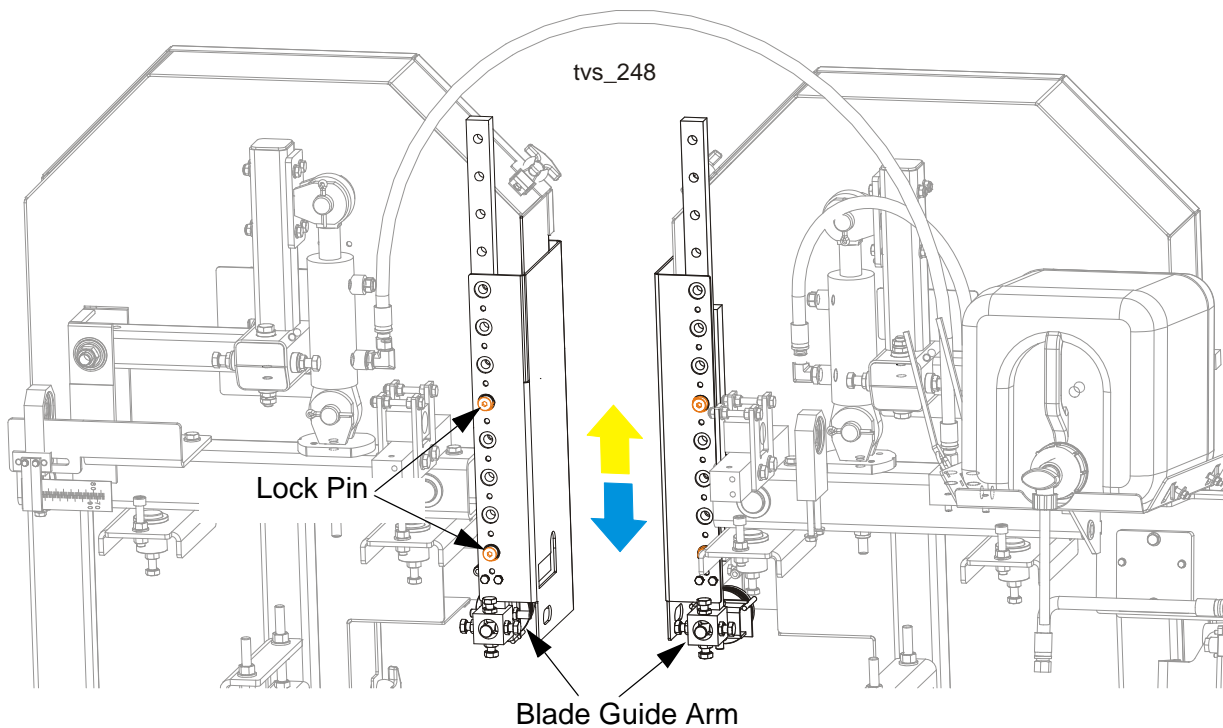

FIG. 2-9
**See Figure 2-9.** To move the blade guide arm, unlock the safety pin and slide the arm up or down. Lock the lock pin.